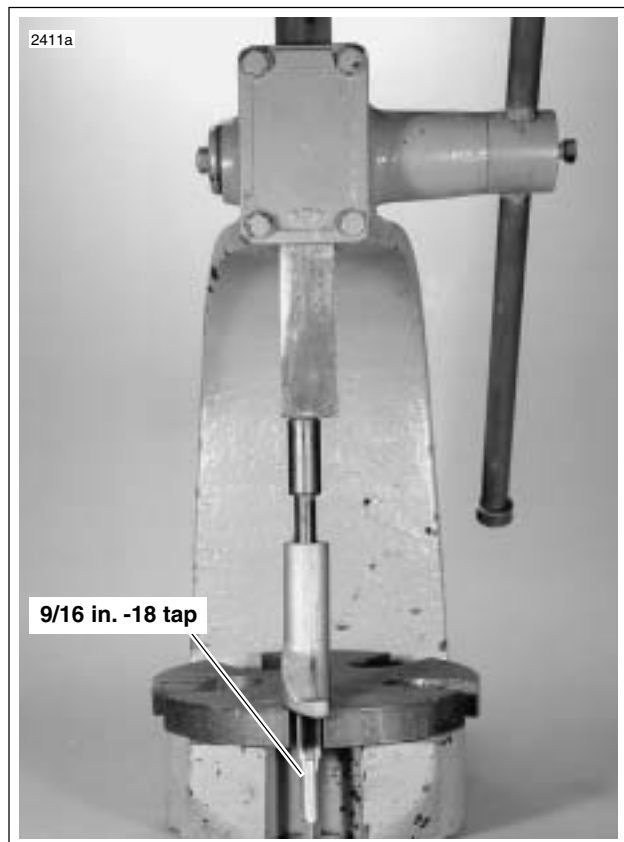

Figure 3-18. Removing Rocker Arm Bushing
1. See Figure 3-18. To replace worn bushings, press or drive them from the rocker arm. If bushing is difficult to remove, turn a 9/16-18 tap into bushing. From opposite side of rocker arm, press out bushing and tap.